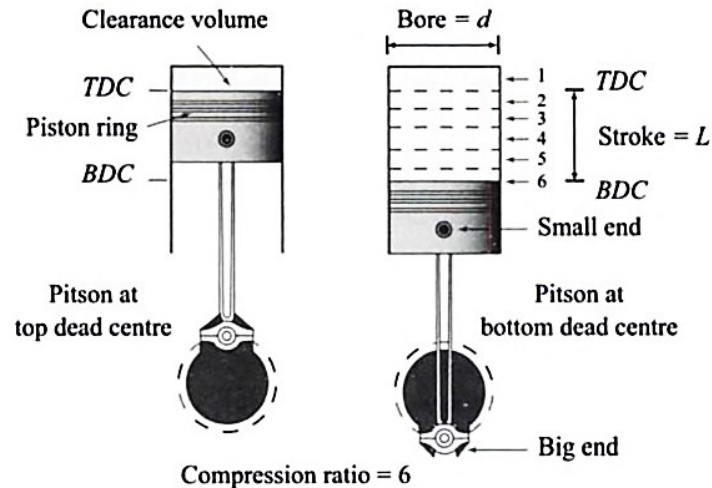

Fig 1.3 IC Engine nomenclature
- It is a component to initiate the combustion process in Spark- Ignition (SI) engines and is usually located on the cylinder head.
- It interconnects the piston and the crankshaft and transmits the gas forces from the piston to the crankshaft. The two ends of the connecting rod are called as small end and the big end (Fig.1.3). Small end is connected to the piston by gudgeon pin and the big end is connected to the crankshaft by crankpin.